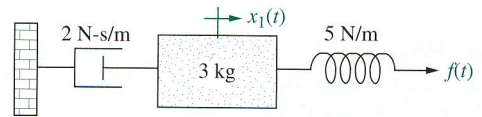

FIGURE P2.9
23. Find the transfer function,  $G(s) = X_1(s)/F(s)$ , for the translational mechanical system shown in Figure P2.9. [Section: 2.5]